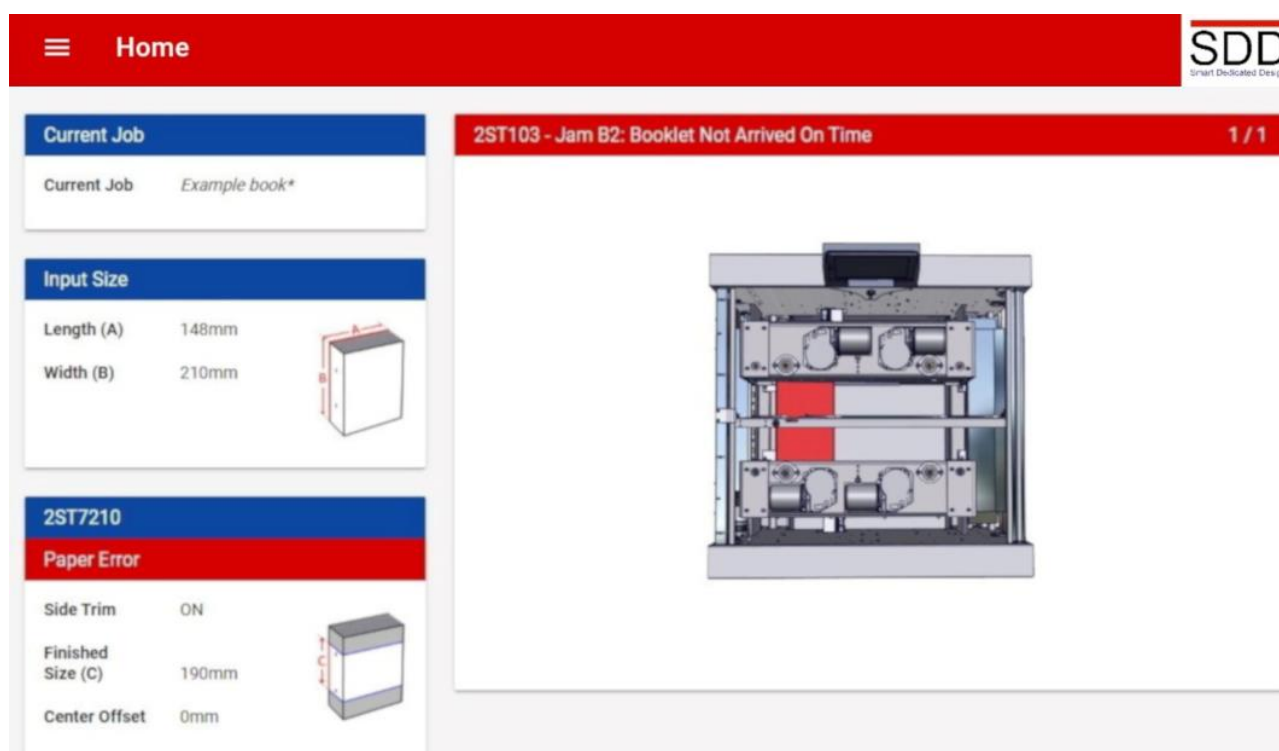

Fig. 5.1.1.
- When a Booklet doesn't arrive in time the message '2ST103 – Jam B2: Booklet Not Arrived On Time' will be displayed together with 'Paper Error'. Fig. 5.1.1.